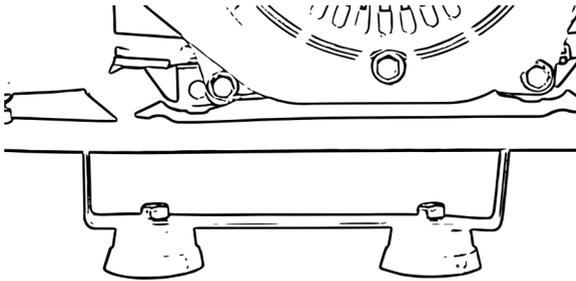

Figure 8
- Fit the bracket unit to the lower frame of the appliance using the two small hexagon bolts and nuts, see Fig. 8